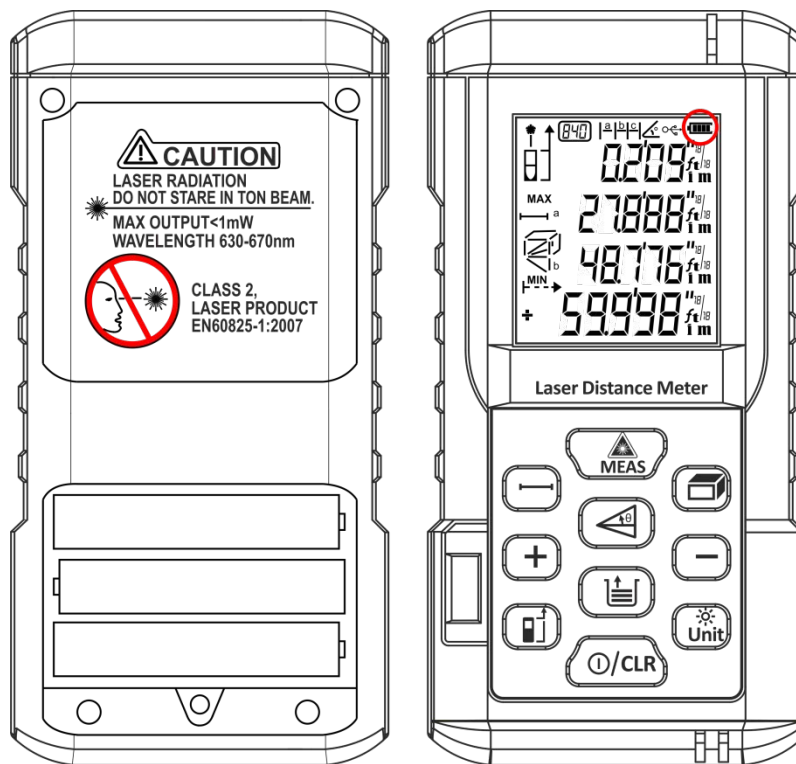

Fig. 02
- 01) Place 3 x 1,5V AAA alkaline batteries in the battery housing in the way presented below (see Fig. 02).